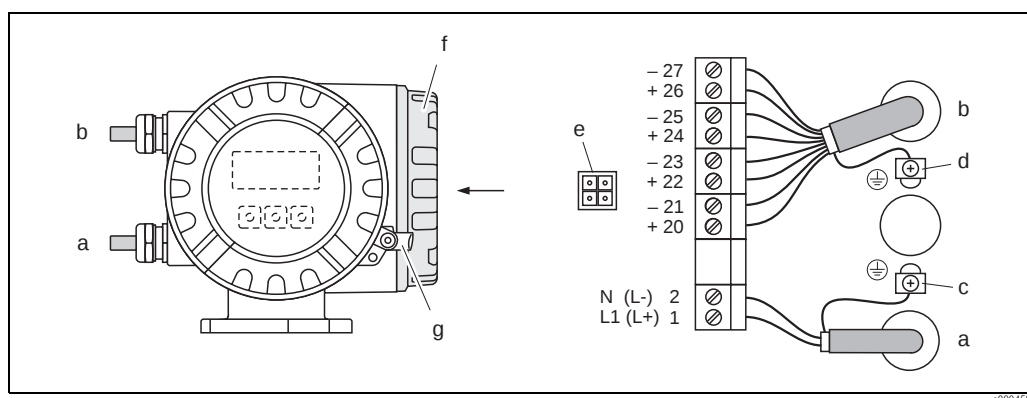

Fig. 21: Connecting the transmitter (aluminum field housing). Cable cross-section: max. 2.5 mm²
- Wiring diagram (aluminum housing) → Fig. 21